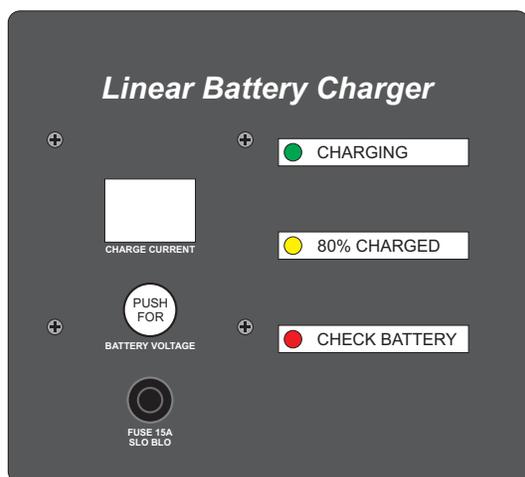

Figure 3-9. Battery Charger Faceplate
- ❑ Plug the extension cord into outlet. Verify that the green CHARGING indicator LED is lit on the battery charger faceplate (Figure 3-9).